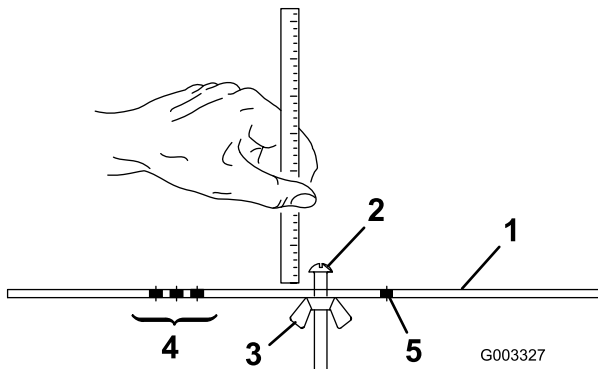

Figure 20
2. Loosen the nut on the gauge bar (Figure 20) and set the adjusting screw to the desired height of cut.